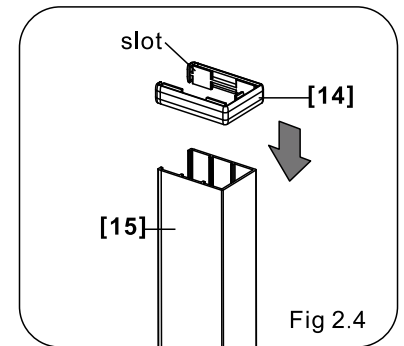

Fig 2.4
4. Install **C Strip [14]** to the top of a **Jamb [15]** as figure shows. Make sure the **walls** of the **Jamb [15]** are inside the slots of **C Strip [14]**. (Fig 2.4)